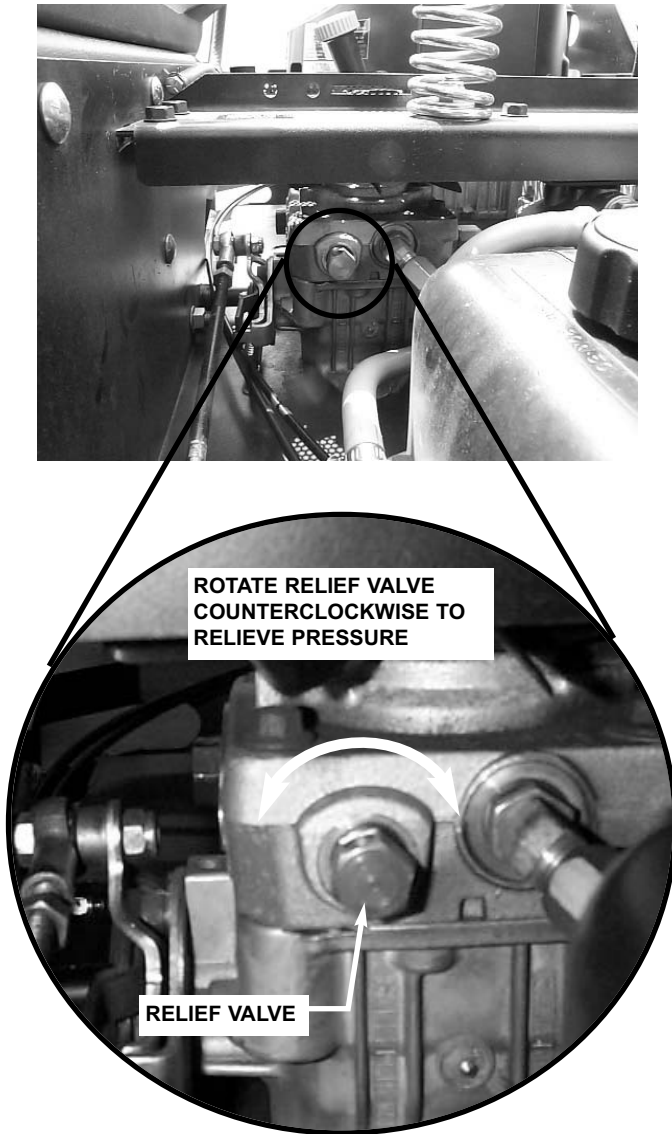

FIGURE 3.4
**ROLL RELEASE:** To roll the machine without the engine running, pressure within the hydraulic pumps must be released. There is a hydraulic pressure relief valve on the upper side of each pump that is used to release the pressure. Use a wrench to rotate both relief valves counter clockwise two full turns to open. After rolling machine, both relief valves must be rotated clockwise to close valves and tighten securely before operating machine. Machine will not move if relief valves are open. See Figure 3.4.